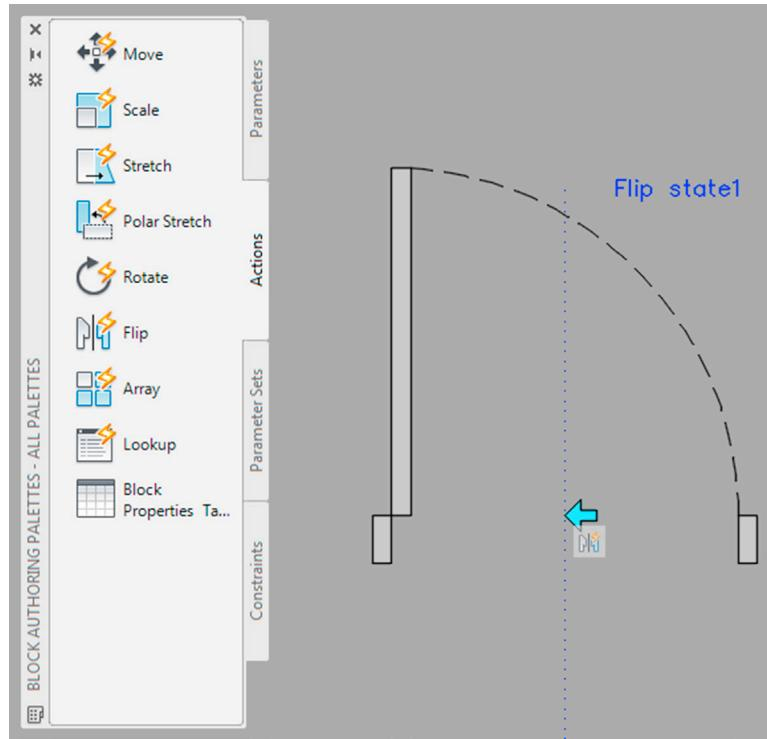

FIGURE 7.17 Flip parameter and action.
Step 3. Add the flip action by selecting the icon, then the parameter, then all the objects. Fig. 7.17 shows what you should have on your screen. You can go ahead and erase the horizontal guide line at this point.